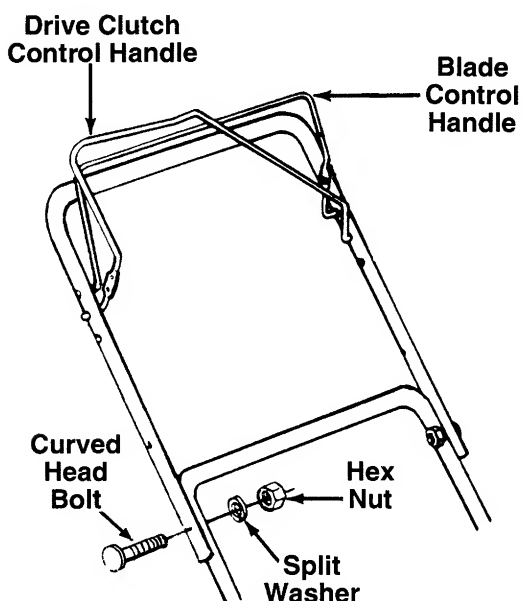

FIGURE 2.
1. Place the upper handle in position over the lower handle. The control handles (attached to the upper handle) must be positioned as shown in figure 2, on top of the handle.
2. Remove the drive clutch control handle from the upper handle (pull right side out of hole in upper handle first, then left side). Make certain blade control handle stays on top of upper handle. See figure 2.